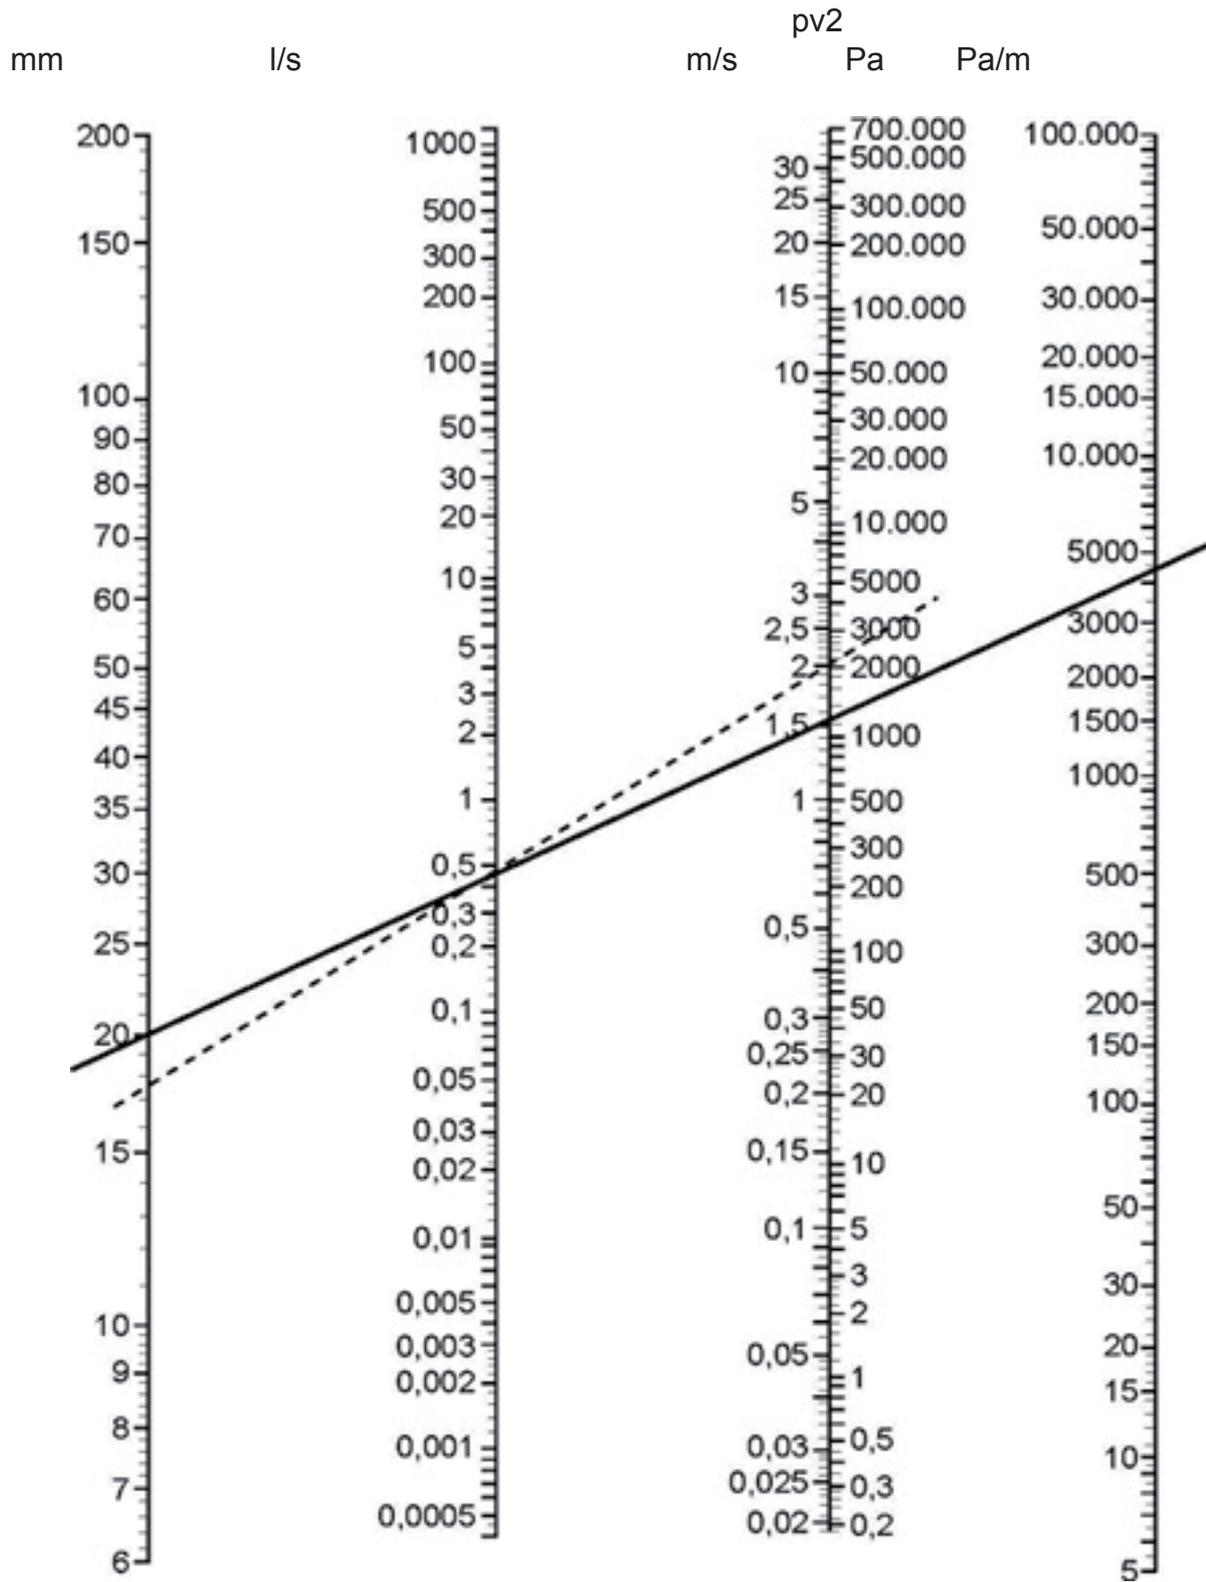
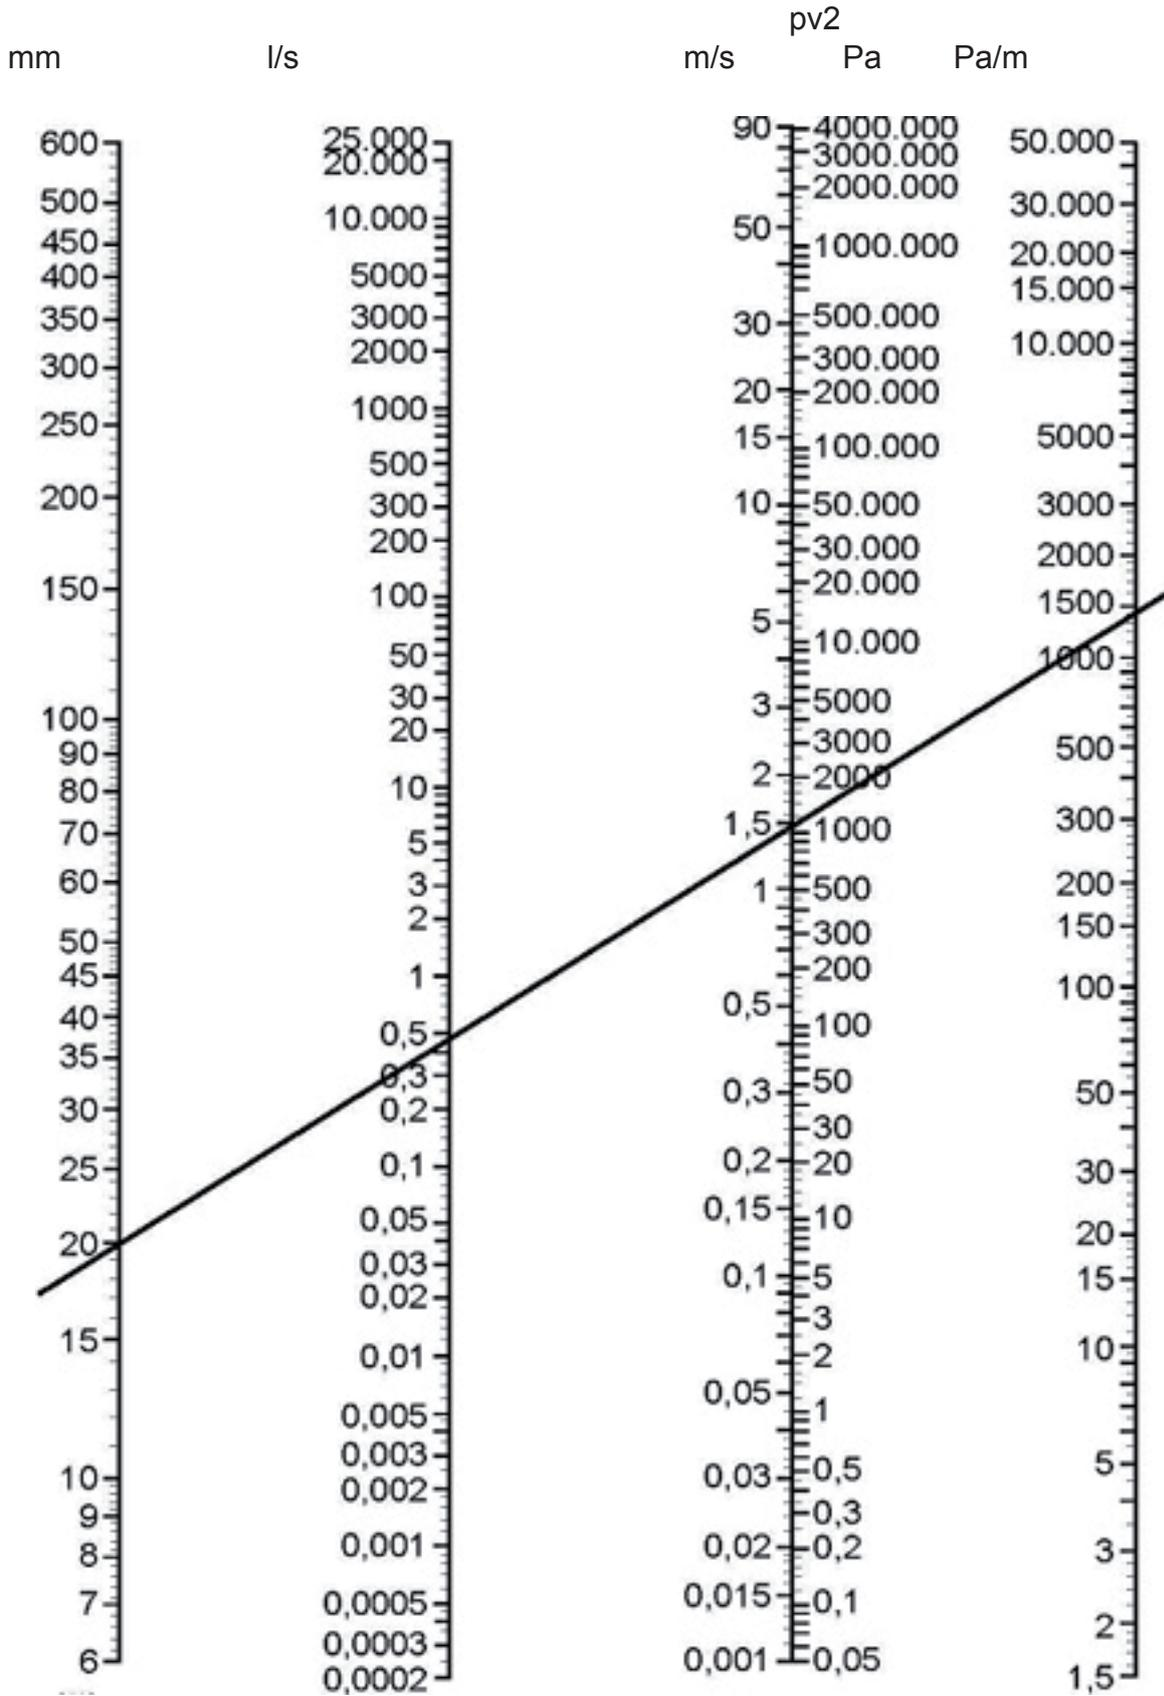
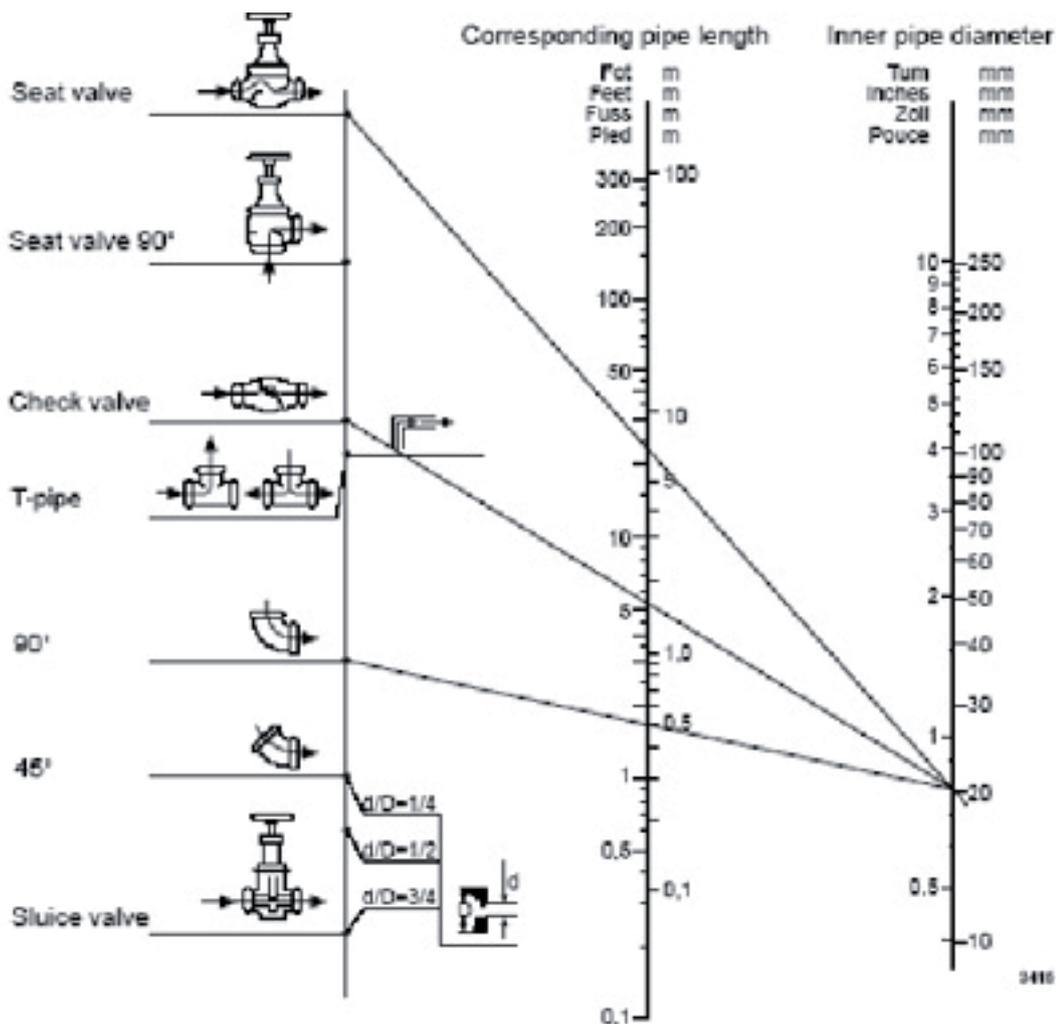

Figure 14. Pressure drop in galvanized steel pipes with deposits.
Figure 15. Pressure drop in plastic pipes.
Figure 16. Pressure drop in valves and pipe elbows.
Use a nomogram for galvanized steel pipes (figure 14) to decide the drop in pressure due to friction.
- Use the nomograms for drop of pressure due to friction in plastic pipes (figure 15), drop of pressure in valves and pipe elbows (figure 16) and drop of pressure in galvanised steel pipes (figure 14). Draw a line in each respective monogram. i.e. for plastic pipes and galvanised steel pipes, draw an unbroken line through the inner diameter 20 mm and flow 0.45 l/sec., then read the pressure losses and the dynamic drop of pressure. Plastic pipe = 1450 Pa/m; Steel pipe = 4500 Pa/m; Dynamic drop of pressure 1200 Pa